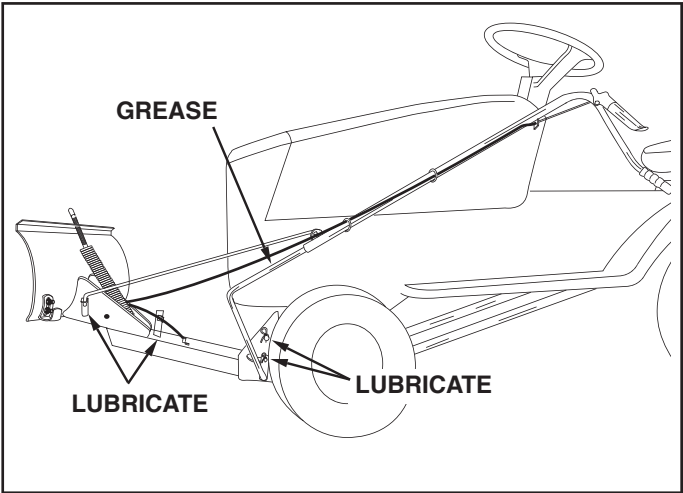

FIGURE 25
- Lubricate all pivot points and all points shown in figure 25, page 12 in the maintenance section.